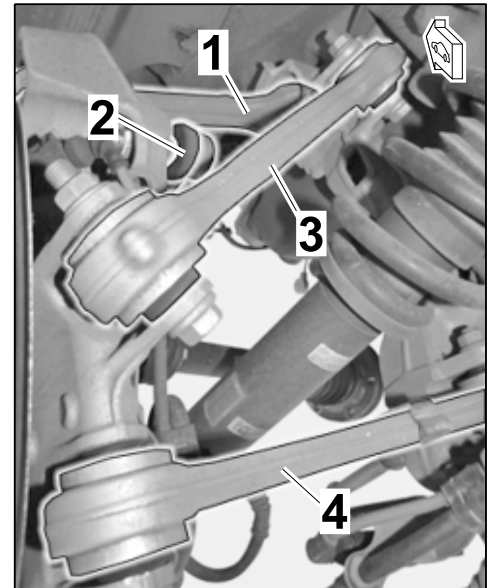

Figure 12
2.2.1 Remove tie rod on wheel carrier (at the left ⇒ *Figure 12 -1-/right*).
2.2.2 Remove connecting link (suspension/stabilizer) on the wheel carrier (at the left ⇒ *Figure 12 -2-/right*).
2.2.3 Remove upper control arms (diagonal/transverse) on the wheel carrier (at the left/right) (⇒ *Figure 12*).